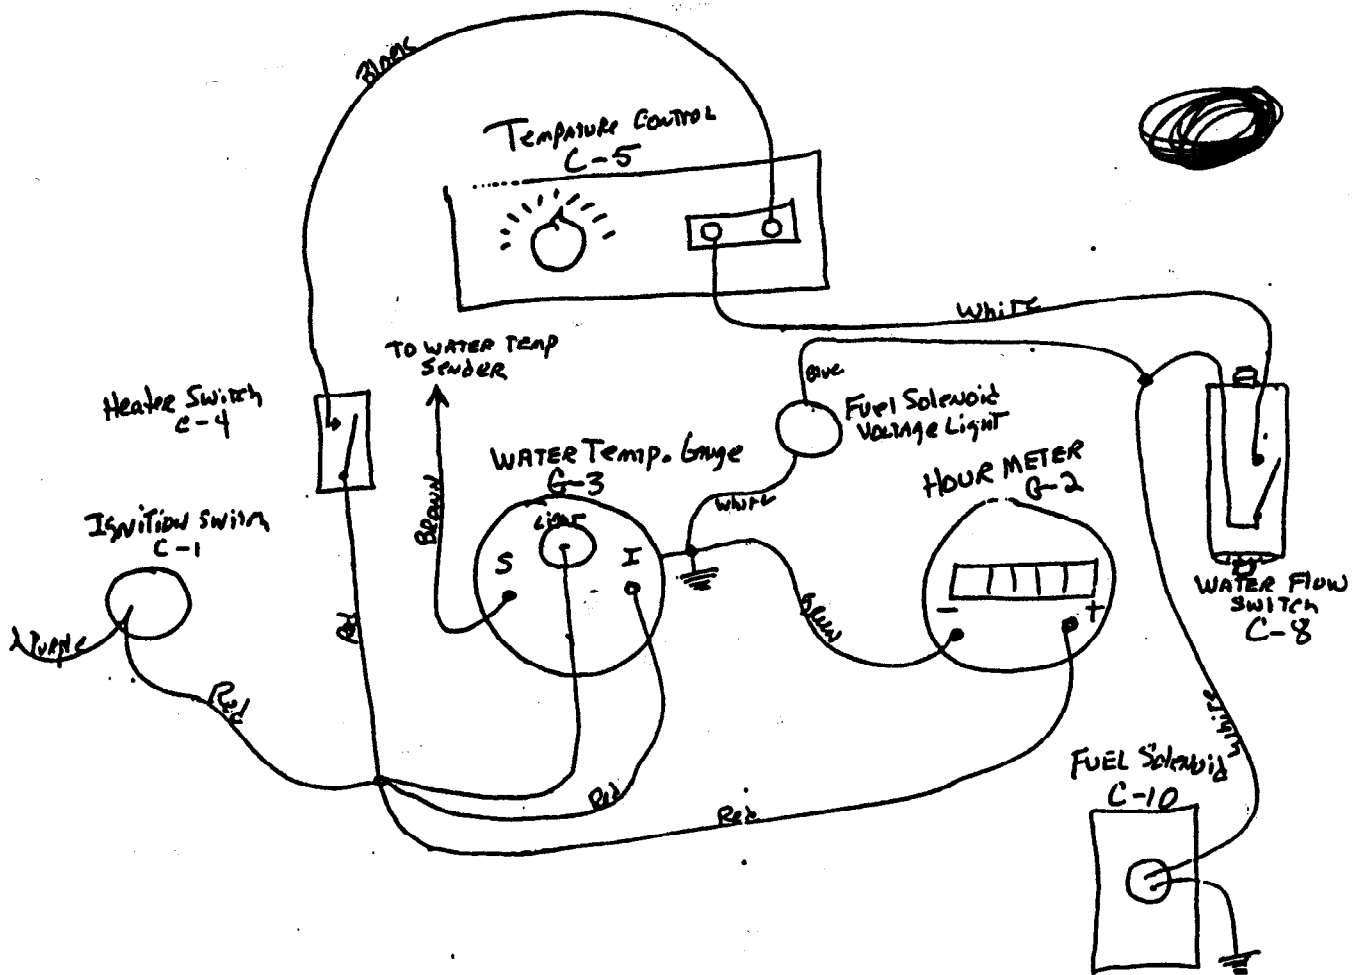

Fig 10-1
- 10-1 The various components requiring 12 volts DC receive their voltage from the ignition switch of the Kohler engine. Refer to the wiring diagram, Figure 10-1. The wiring of the Kohler engine is not included in this manual. Information on Kohler engine wiring would have to be obtained through your local Kohler distributor.